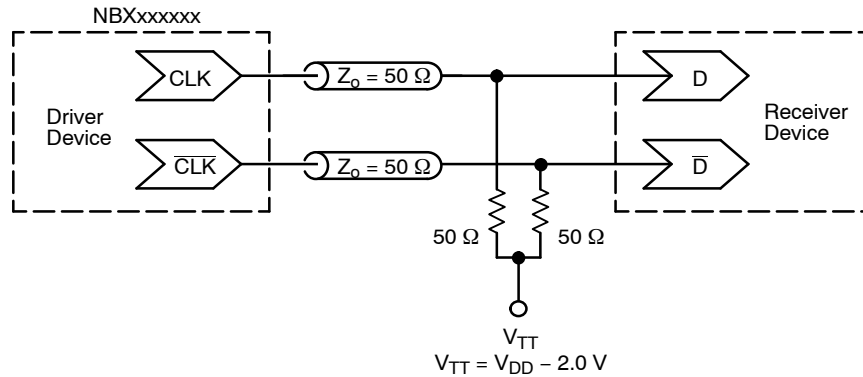

Figure 5. Typical Termination for Output Driver and Device Evaluation
2. Measurement taken with outputs terminated with 50 ohm to $V_{DD}-2 \text{ V}$. See Figure 5.
3. Measurement taken with outputs terminated with 50 ohm to $V_{DD}-2\text{ V}$. See Figure 5.